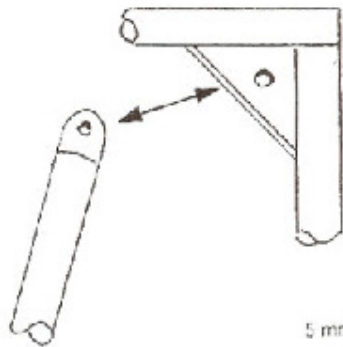

Fig 3.
- c. A tongue and gusset connection (Fig. 3). In this case, the tongue and gusset will be made from minimum 6mm (1/4”) plate.